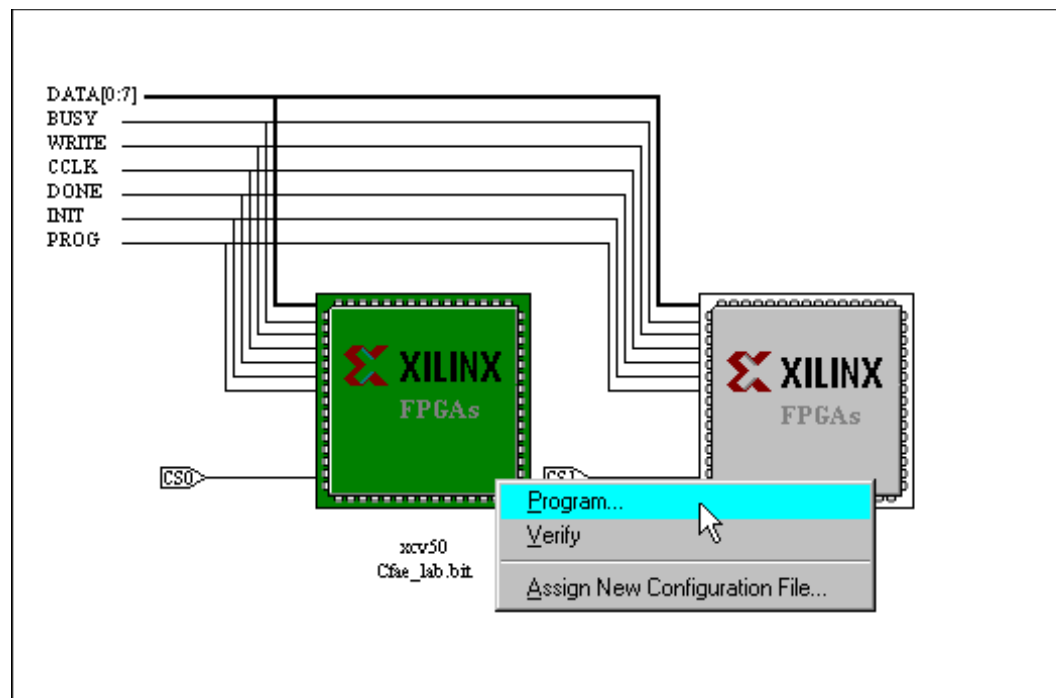

Figure 4-24 Selecting Program or Verify in Select MAP Mode
Once a BIT or RBT file is selected the device will appear in the iMPACT window. Up to three devices can be added. Figure 4-24 shows an example where two devices have been added. Notice that each one has a different Chip Select (CS) pin. These correspond to the CS pin on the Multilink Cable. Make sure that the correct CS pin is connected to the correct device. The CS pins can be swapped by dragging and dropping the pins in the window.